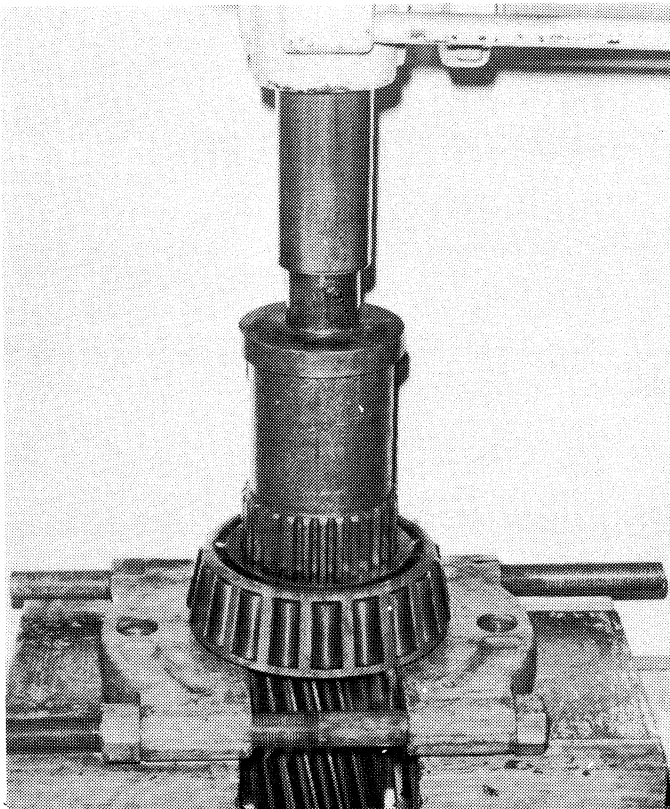

Figure 6-31. Removing Roller Bearing Inner Race from Input Pinion.
9. Remove the bearings, if necessary, with a bearing puller and press. See Figure 6-31.